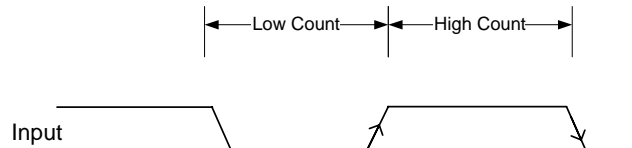

Figure 83. Pulse-Width Measurement Mode
- On the falling edge of the source clock, the free-running count is copied to the HIGH_FIXED_COUNT bit field (as shown in Figure 83).